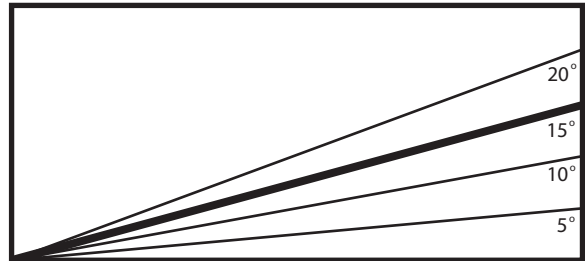

Figure 2-4. Slope Angle Graph
DO NOT operate on steep slopes. To check a slope, attempt to back up it (with the cutter deck down). If the machine can back up the slope without the wheels slipping, reduce speed and use extreme caution. Under no circumstances should the machine be operated on slopes greater than 15 degrees. See Figure 2-4, Page 7 to determine approximate slope of area to be mowed. ALWAYS FOLLOW OSHA APPROVED OPERATION.
20. Be cautious when loading and unloading onto trailers or trucks. Use only a full width ramp. Ramp angle should be no more than 15 degrees. See Figure 2-4, Page 7 to determine approximate slope of the ramp. Back up the ramp and drive down forward.
Stay off of slopes too steep for safe operation. To check a slope, attempt to back up it (with the cutter deck down). If the machine can not back up the slope without the wheels slipping, do not operate the machine on this slope. Under no circumstances should the machine be operated on slopes greater than 15 degrees. See Figure 2-4 to determine approximate slope.
Ramp angle should be no more than 15 Degrees. See Figure 2-4 to help determine approximate slope.